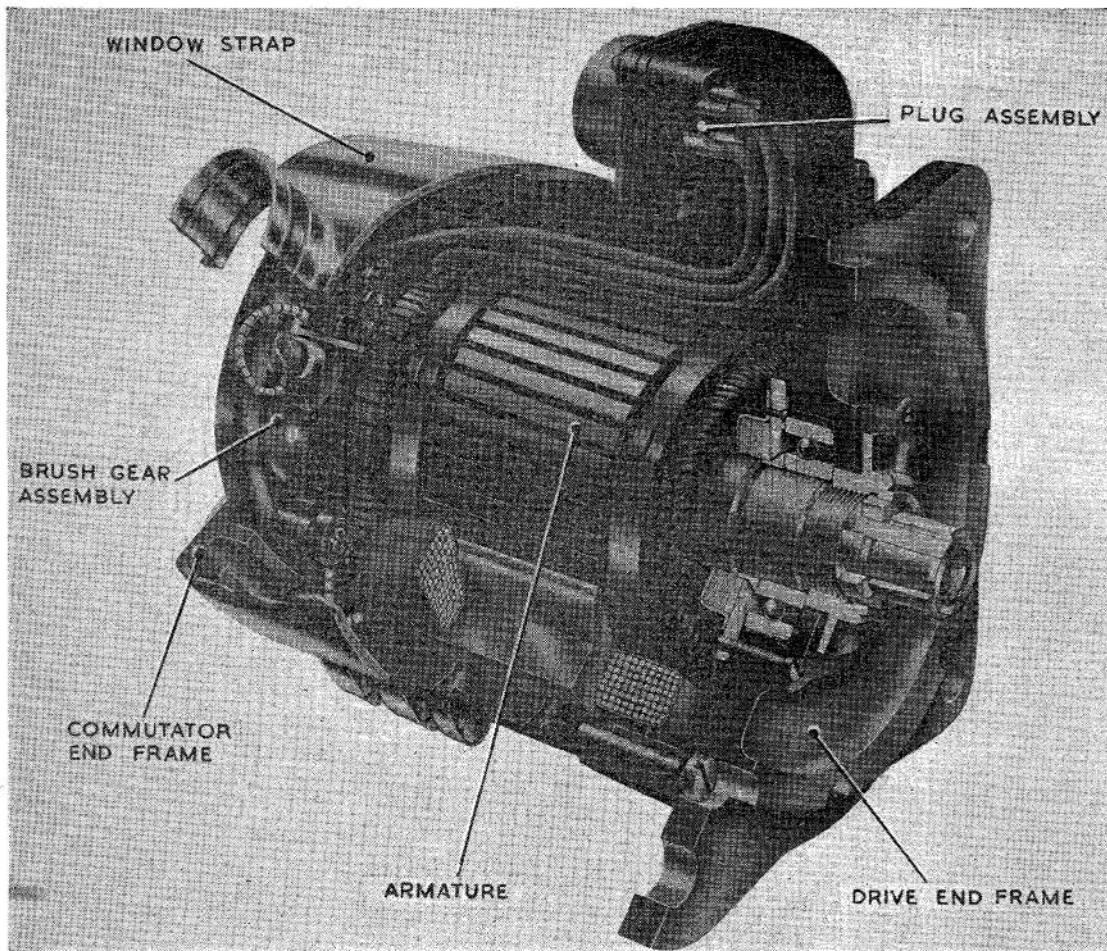

Fig. 1. Sectional view of typical generator
2. A sectional view of a typical generator is shown in fig. 1. The generators in this series are four-pole, shunt-wound machines which follow conventional design, with an armature carried at each end by ball bearings supported in the end frame. The commutator end frame is fixed to the yoke by eight screws and tab washers, and the driving end frame by seven screws and lock washers.